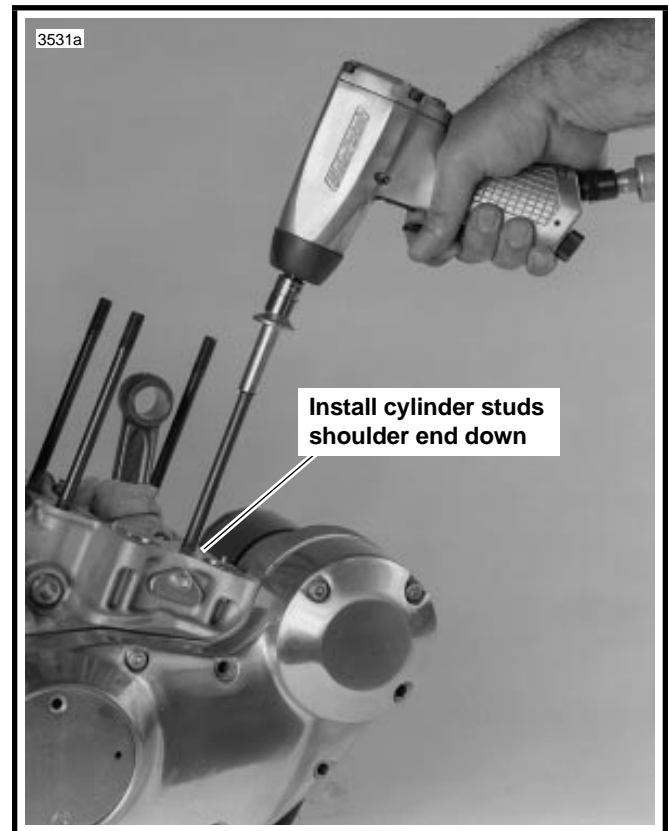

Figure 3-94. Install Cylinder Stud
20. See Figure 3-94. Install the stud in the crankcase with the shoulder end down. Tighten to 10 ft-lbs (13.6 Nm).